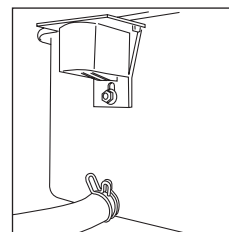

fig. 21
- Make sure the protruding part of the hose clip is facing upwards before replacing the bowl in the fryer (fig. 21).